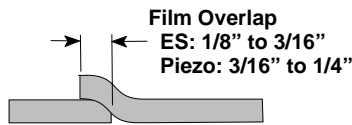

Figure 5. Recommended Film Overlaps
- The appearance of light leaks can be reduced or eliminated by creating an overlap at the panel seams. The seam does appear darker than the rest of the image, especially when backlit, but it is generally more acceptable than a light leak. This is the only method recommended by 3M. See Figure 5.